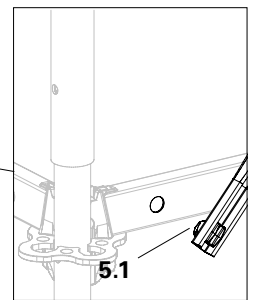
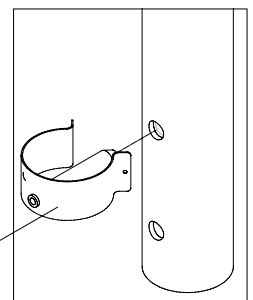

Fig. A1.03b
Fig. A1.03c
1. Insert Standards (4) and tightly connect using Locking Pins (7). (Fig. A1.03c)
2. Install Ledgers (3).
3. Insert Ledger Braces (5) with the finger (5.1) in the bottom Ledgers (3). (Fig. A1.03b)